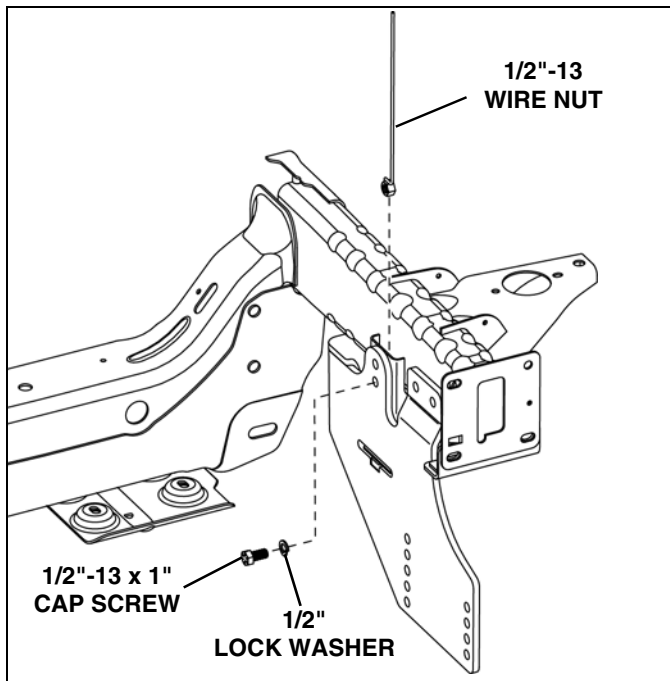
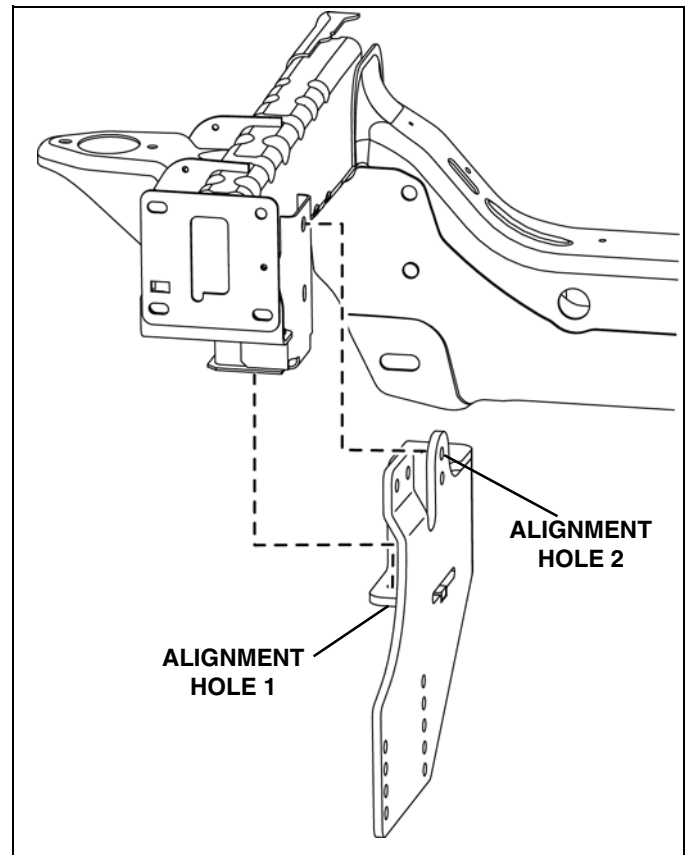

Figure 3
Figure 4
- a. Insert (1) M12-1.50 x 30mm Cap Screw (#10) through (1) 1/2" Lock Washer (#9), and the lower hole of the Weldment, Side, DS (#2). Then, thread into the lower Tow Hook hole.
- b. Insert (1) Wire Nut, 1/2"-13 (#5) into the vertical square bracket on the truck frame from the top. Then, insert (1) 1/2"-13 x 1.00" Cap Screw (#11) through (1) 1/2" Lock Washer (#9), then the lower side hole of item (#2) and secure to item (#5). (See Figure 3)
- c. Place (1) 1/2" Plain Washer (#8) over the threads of (1) 1/2"-13 x 1-1/2" Handle Bolt (#7). Secure the washer against the head of the bolt using a rubber band tightly wound around the bolt up against the washer. This will prevent the washer from falling off the bolt as it is inserted into the truck frame. Insert items (#6 & 8) into the truck frame, through the front drilled hole in the side of the frame, and item (#2). Secure loosely using (1) 1/2"-13 Nylock Nut (#6).
- e. Place (1) 1/2" Plain Washer (#8) over the threads of (1) 1/2"-13 x 1-1/2" Handle Bolt (#7). Secure the washer against the head of the bolt using a rubber band tightly wound around the bolt up against the washer. This will prevent the washer from falling off the bolt as it is inserted into the truck frame. Insert items (#7 & 8) into the truck frame, through the rear drilled hole in the bottom of the frame, and item (#2). Secure loosely using (1) 1/2" Plain Washer (#8) and (1) 1/2"-13 Nylock Nut (#6).
6. Install Side Weldment, PS (#3) to the inside of the driver side vehicle frame rail. Align the two holes pointed out in figure 3 on item (#3) with the Tow Hook hole and side hole in the truck frame. (See Figure 4)